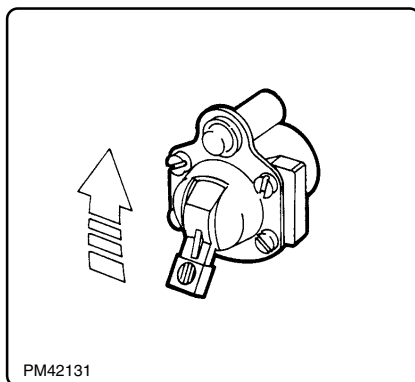

fig. 6.7.2
**2** Inserire la presa di forza tramite l'apposito deviatore pneumatico (normalmente in cabina) azionando la frizione (fig. 6.7.2).
**2** *Engage the PTO by means of the appropriate pneumatically operated switch (normally located in the cab), operating the clutch (fig. 6.7.2). With a mechanical coupling system, the lever is behind the driving seat.*